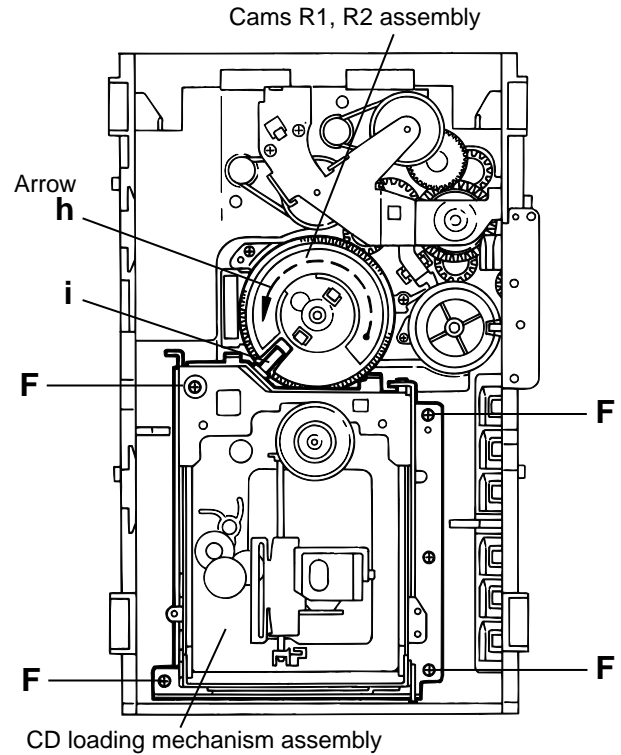

Fig.10
**■ Removing the CD loading mechanism assembly(See Fig.10)**
1. While turning the cams R1 and R2 assembly in the arrow direction "h" ,align the shaft "i" of the CD loading mechanism assembly to the position shown in Fig.10.